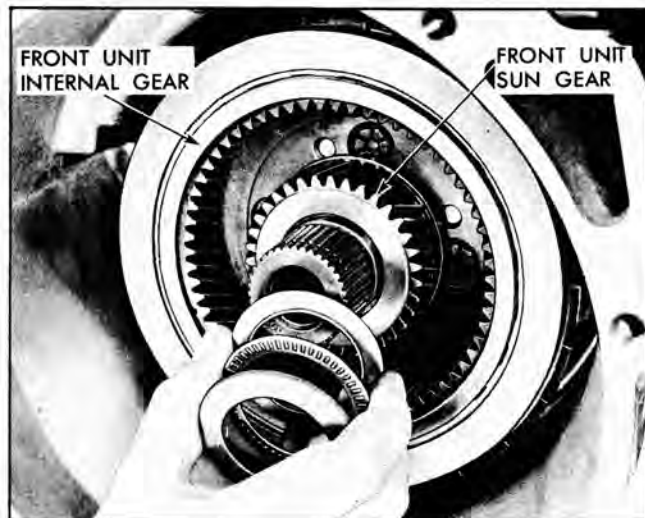

Fig. 121 Installing Thrust Bearing and Races on Front Sun Gear
6. Install front carrier thrust bearing race onto rear carrier shaft—inner flange out (Fig. 121).